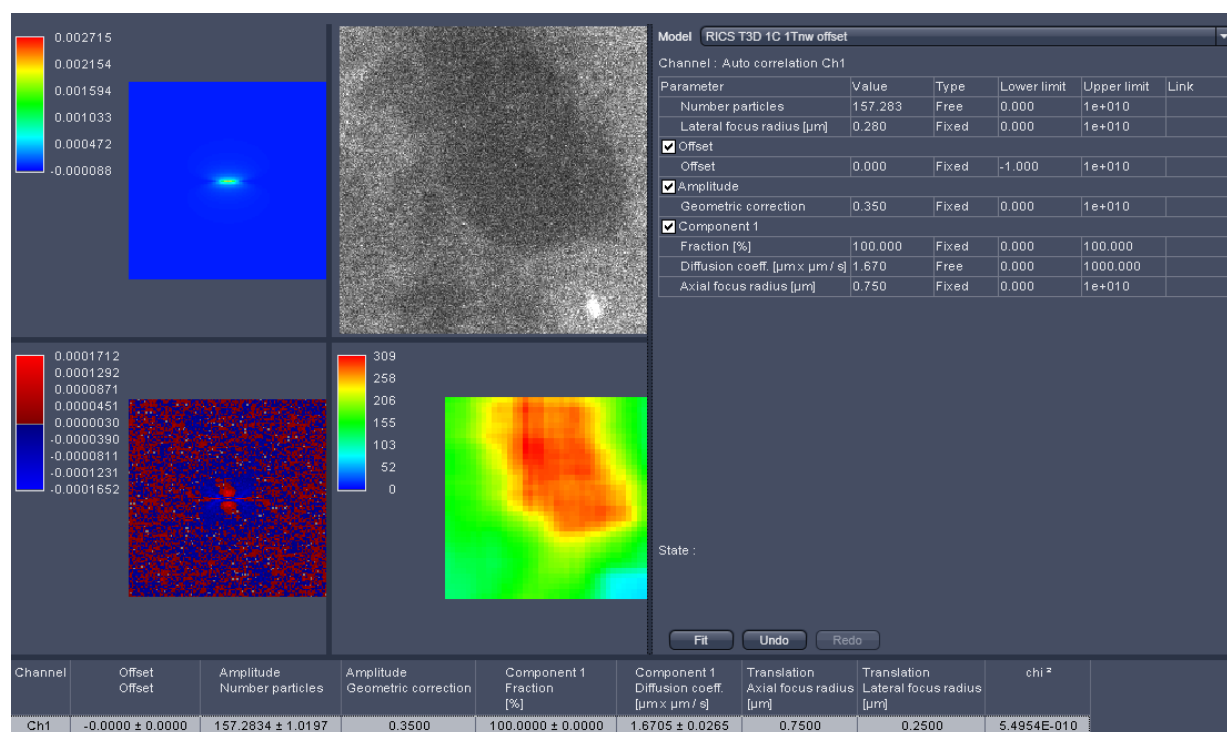

Fig. 721 Interpolation drop down menu
The **Interpolation** drop down menu (Fig. 721) allows you to select, which data points will be interpolated in the correlation function. If **No interpolation** is selected, none of the data points will be interpolated. If **Interpolate G(0)** is selected the zero spatial correlation value will be interpolated. If **Interpolate G(0) and G(1)** is selected the zero spatial correlation and the 1st pixel shifted correlation value will be interpolated.